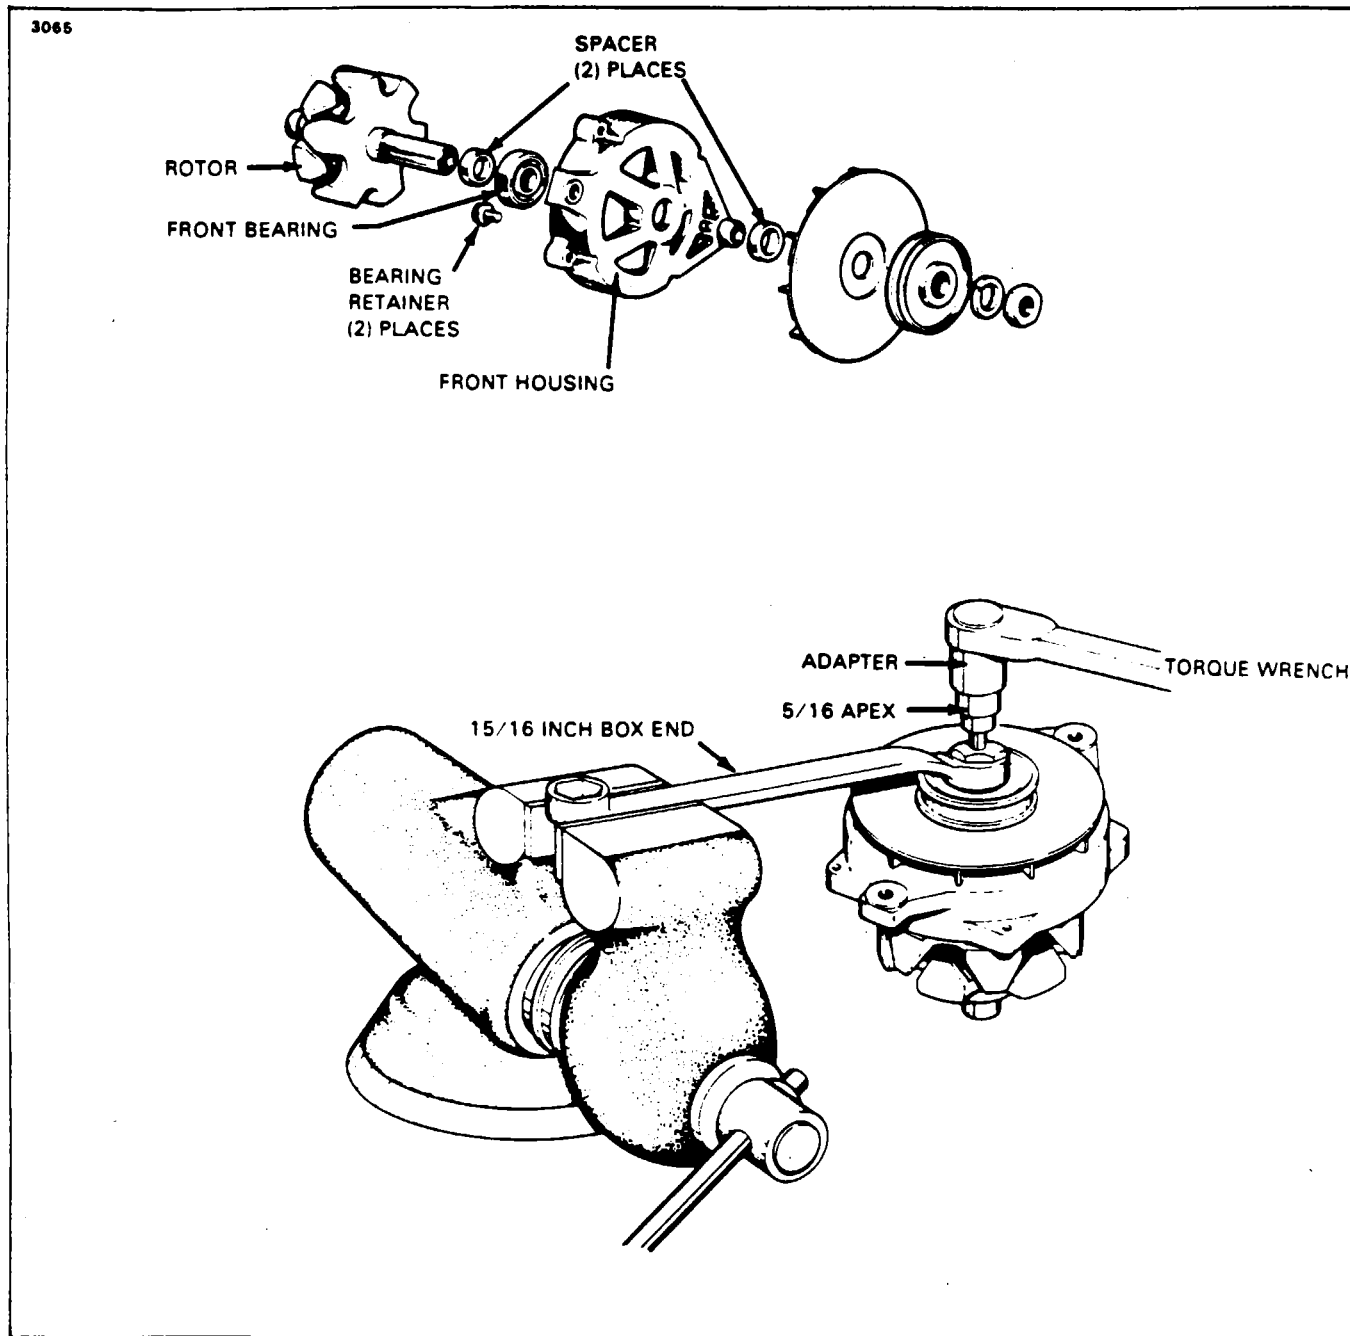

Figure 24-33. Front Housing Assembly
4. Install spacer, fan, pulley, flat washer, lock washer and nut. Tighten the nut to 60-100 ft.-lbs. A special tool similar to Figure 24-33 is required to torque nut.